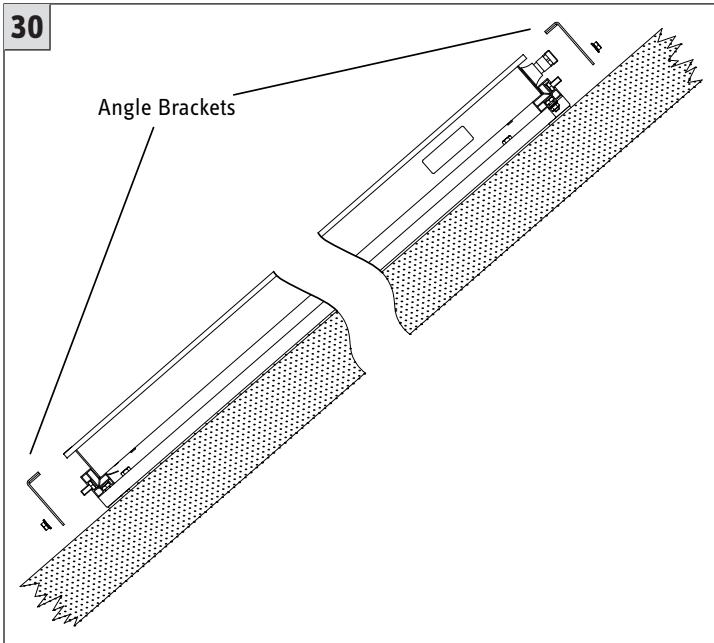

Figure 30: Securing Collectors To Frame Using Angle Brackets.
Secure each collector at the top and bottom with eight (8) angle brackets – four along the top profile frame and four along the bottom – by inserting M10 bolts (from kit 185545 or kit 185546) into the profile rail's bolt channel, placing the angle brackets into position, and tightening the bolts. See **Figure 30**. (For horizontal mounting systems, secure each collector at the top and bottom with sixteen (16) angle brackets – eight along the top profile frame and eight along the bottom.)